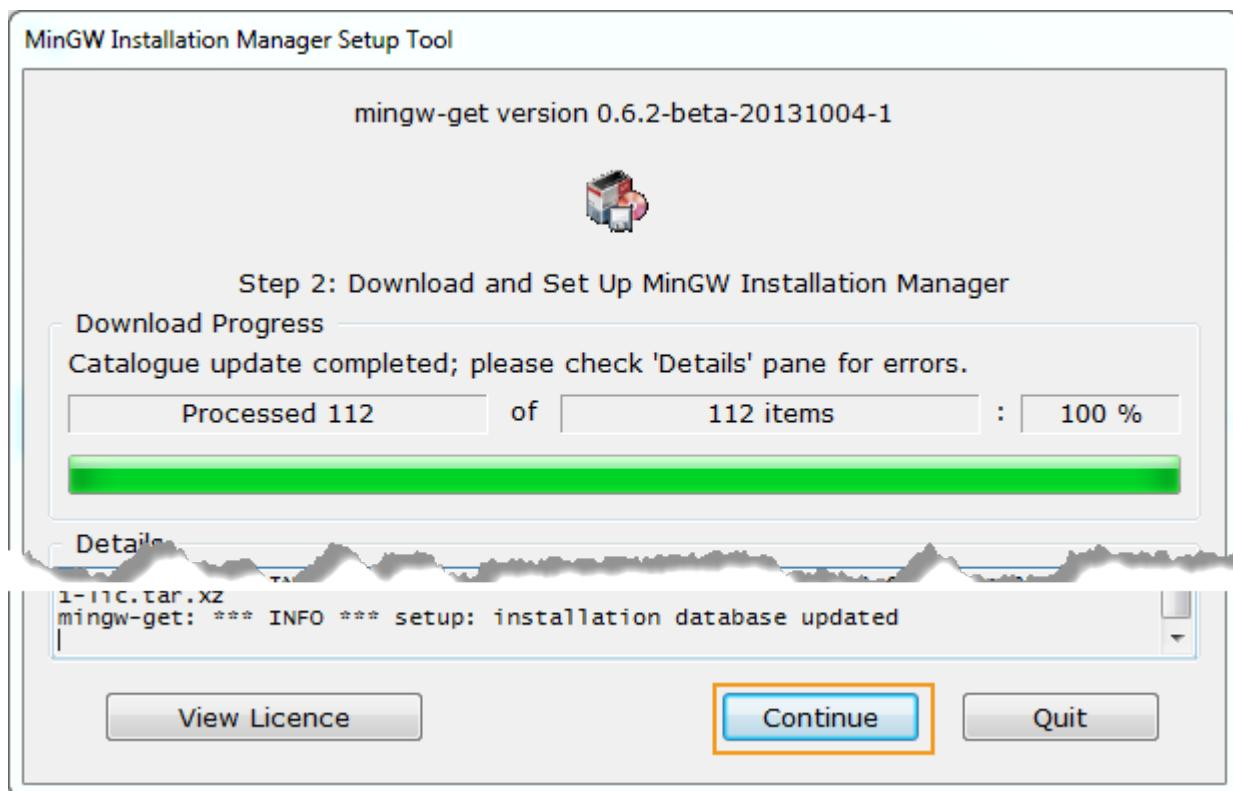

Figure 36. Download and set up MinGW Installation Manager
- 4) Click **Continue** on the **MinGW Installation Manager Setup Tool**, after the download is complete (see Figure 36).